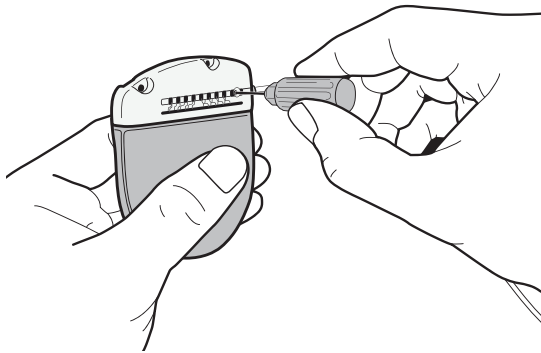

Figure 35. Inserting the Hex Wrench Into the IPG Header
8. Pass the Hex Wrench through the slit in the Septum located on the side of the IPG Header (Figure 35).